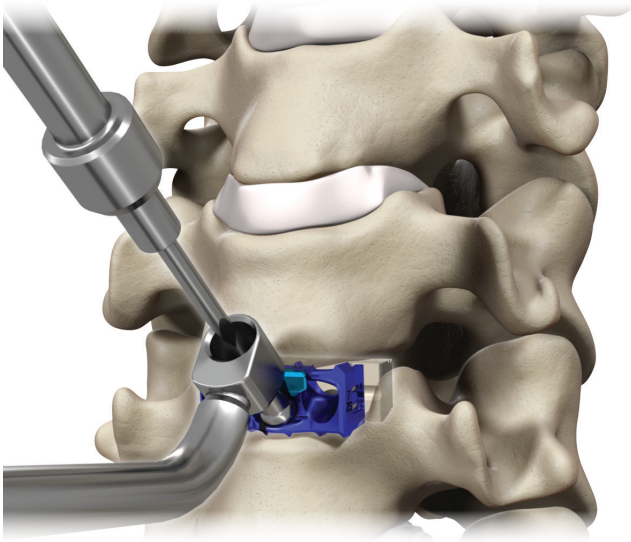

Figure 39
- Prepare the midline screw hole using the Fixed or variable drill guide. The fixed or variable drill allows the awl/drill (straight, flexible, or u-joint options) to prepare for the midline screw hole. Seat the guide tip into the medial screw hole. Place the awl/drill through the selected drill guide until the positive stop contacts the guide. The awl/drill will create a pilot hole 6 mm deep. Intra-operative imaging should be used to verify awl/drill position and determine the appropriate length screw (Figure 39).